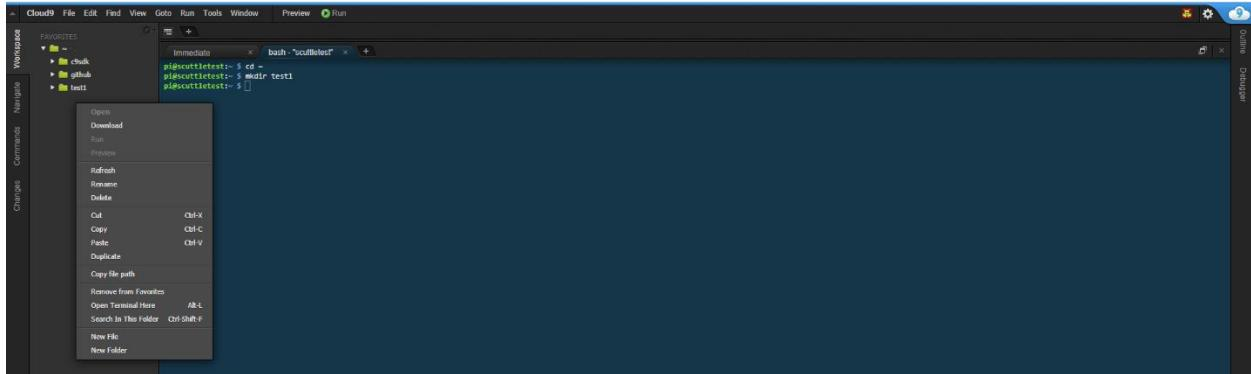

Figure 7
- i. This will open a drop-down menu as shown in Figure 7 below.
- a. This will open a drop-down menu as shown in Figure 7.